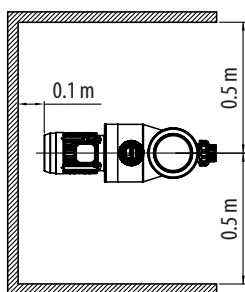

FIGURE 1
- It is recommended to leave space between the pump and the outer edges of the installation as shown in the diagram (FIGURE 1).